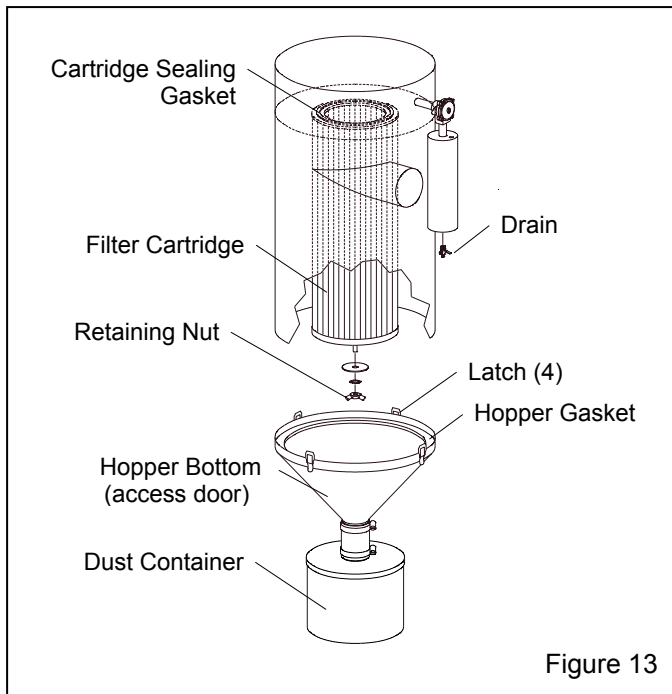

Figure 13
**6.3.1** Open the petcock to drain water from the pulse manifold before and after each use. See Figure 13 for the location of the drain petcock.
## 7.7 Filter Cartridge Replacement, Figure 13